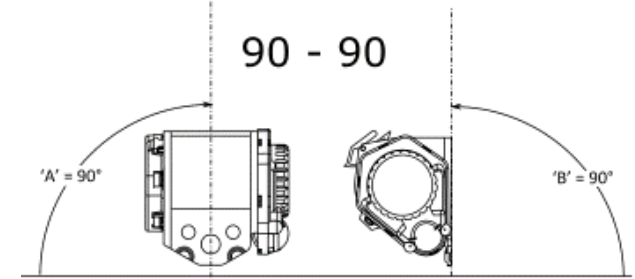

Figure 4.3 90-90 Retractor
- Figure 4.3 to 4.6 show examples of common retractor angles. Back view of the retractor is shown on the left of each figure, and side view of the same retractor is shown on the right. The horizontal line which the angle is measured from is parallel to the ground.